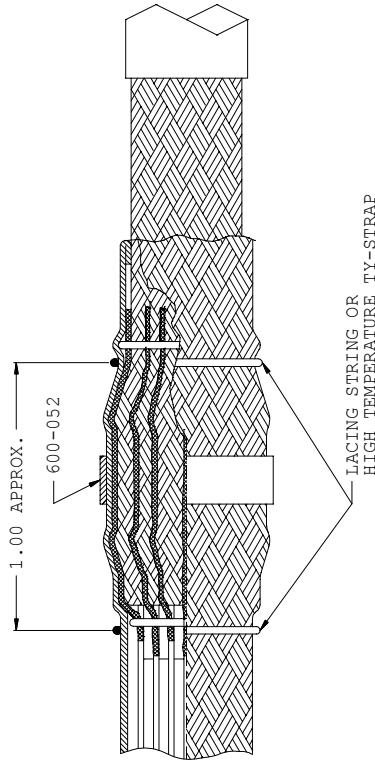

FIGURE 4
9. BRING SHIELD SOCK FROM BACKSHELL AND COMPLETELY COVER PIGTAILS AND SUPPORT RING. TRIM AND FOLD BRAID AS SHOWN IN FIGURE 4. LACE TIE SHIELD ADJACENT TO SUPPORT RING ENDS.
10. INSTALL BAND, 600-052, PER GLENAIR'S BAND-IT TERMINATION PROCESS BETWEEN THE LACE TIES ONTO THE CENTER OF THE SUPPORT RING, AS SHOWN (FIGURE 4). HAND BANDING TOOL, 600-058, OR PNEUMATIC BANDING TOOL, 600-067, REQUIRED FOR BANDING PROCESS.